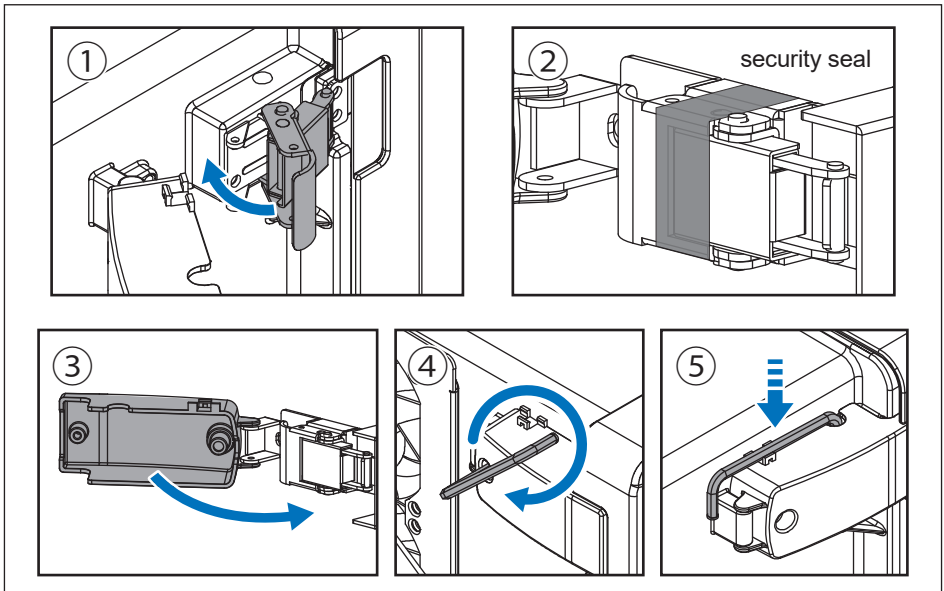

Figure 5-4: Close the door
6. The hexagon wrench can be fixed on the protection cover as **Figure 5-4-⑤**.